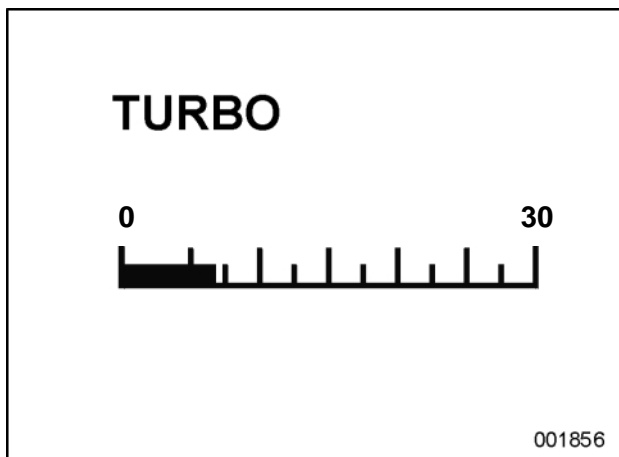

Figure 12: Turbo boost pressure shown on MFD
- The turbo boost gauge too has been deleted. This information is again provided by the multifunction display (see Figure 12) and can be retrieved by pressing the MFD call-button (12, Figure 9) three times. End of scale equals 2 bar (29 psi).